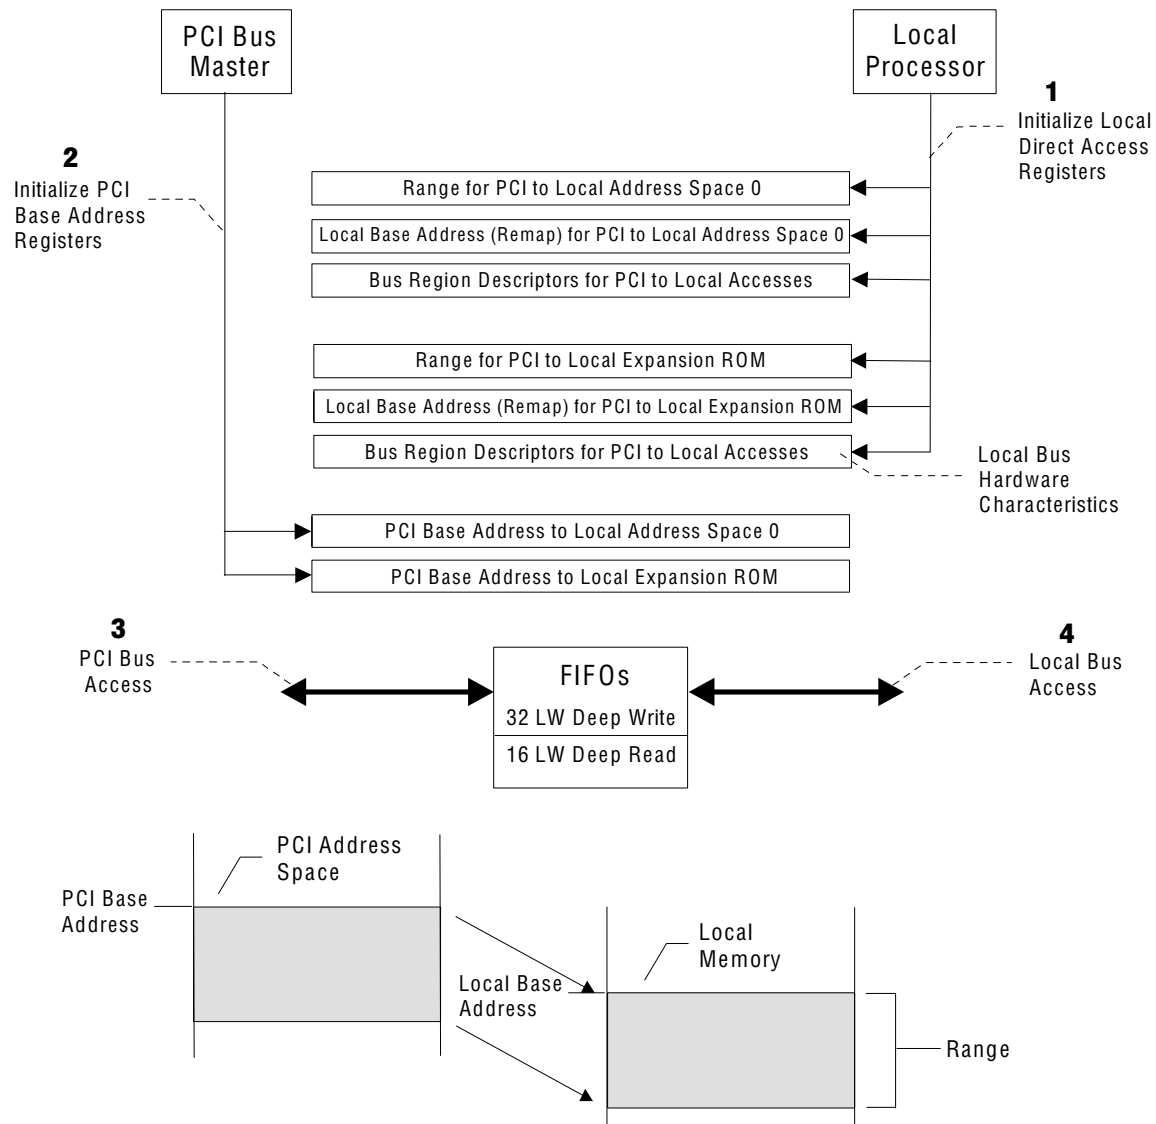

Figure 3-6. Direct Slave Access of Local Bus
A fourth register, Bus Region Descriptors for PCI to Local Accesses Register, defines the local bus characteristics for both regions. (Refer to Figure 3-6.)
PCI reset software determines how much address space is required by writing a value of all ones (1) to a PCI Base Address register and then reading back the value. The PCI 9080 return zeroes in “don’t care” address bits, effectively specifying the address space required. The PCI software then maps the Local Address space into the PCI Address space by programming the PCI Base Address register. (Refer to Figure 3-6.)